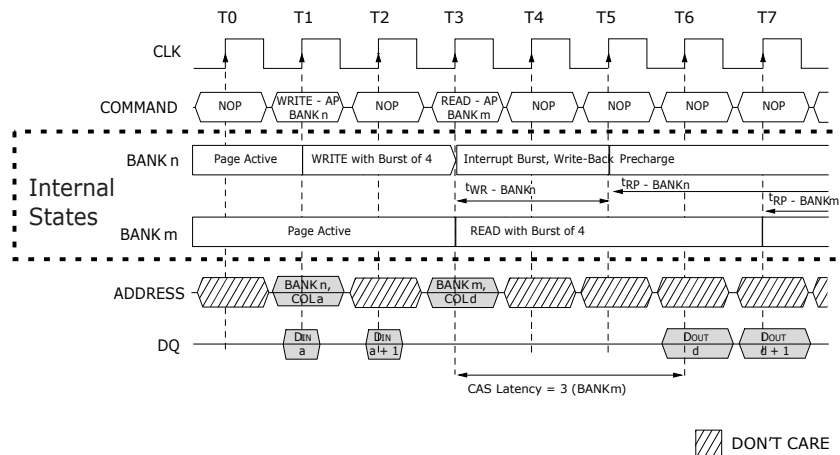

Figure 50. Write with Auto Precharge Interrupted by a Read
- Interrupted by a Read (with or without auto precharge): When a Read to bank m registers, it will interrupt a Write on bank n , with the data-out appearing 2 or 3 clocks later, (depending on CAS latency). The precharge to bank n will begin after t_{WR} is met, where t_{WR} begins when the Read to bank m is registered. The last valid Write to bank n will be data-in registered one clock prior to the Read to bank m (Figure 50).